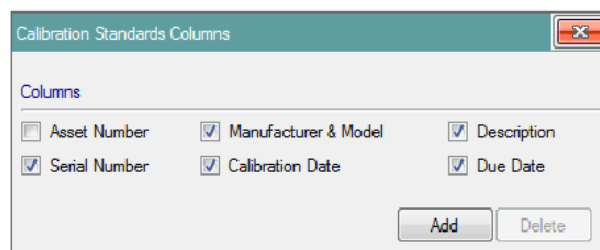

Figure 31. Calibration Standards Insertion Screen
2. Click on the **Add Cal Standards Fields** button to open the screen in Figure 31.